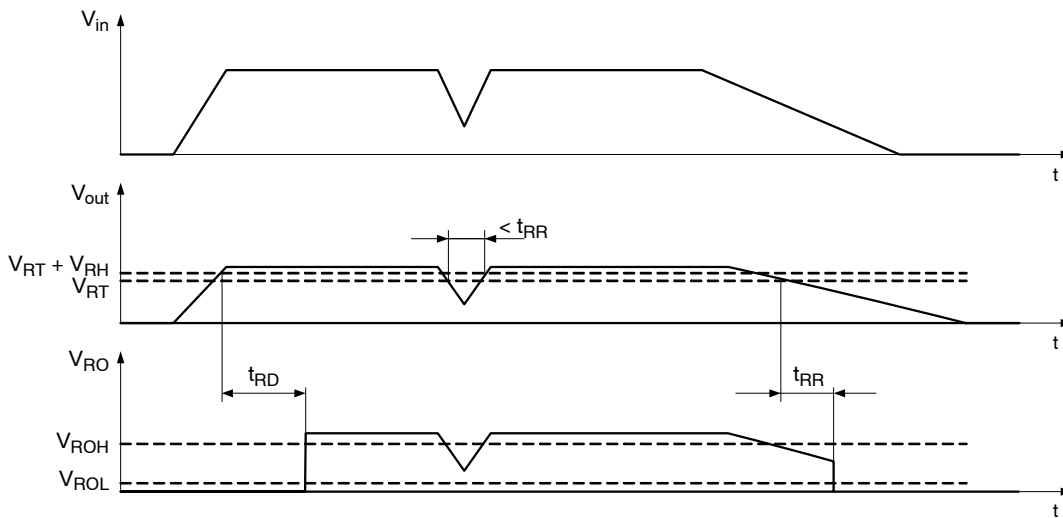

Figure 31. Reset Function and Timing Diagram
A reset signal is provided on the Reset Output (RO) pin to provide feedback to the microprocessor of an out of regulation condition. The timing diagram of reset function is shown in Figure 31. This is in the form of a logic signal on RO. Output voltage conditions below the RESET threshold cause RO to go low. The RO integrity is maintained down to V_{out} = 1.0 V. For 5 V voltage option, the Reset Output (RO) circuitry includes internal pull-up (30 kΩ) connected to the output (V_{out}) No external pull-up is necessary. For voltage options and 3.3 V RO is open drain output and external pull-up resistor is required. Select pull-up resistor in range between 5 kΩ to 100 kΩ with respect to I_{ROmax} and I_{ROLK} limits to keep V_{RO} logic levels at appropriate range.